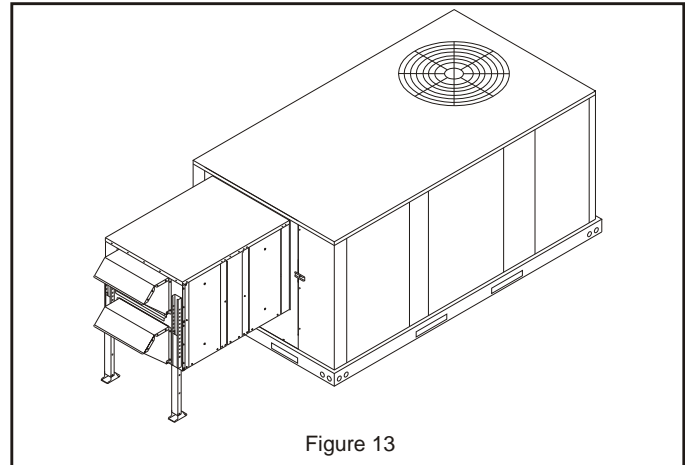

Figure 13
7. Check and seal, if necessary, along the edges where the ERS meets the rooftop unit to ensure there is no air leakage. Final assembly should resemble **Figure 13.**